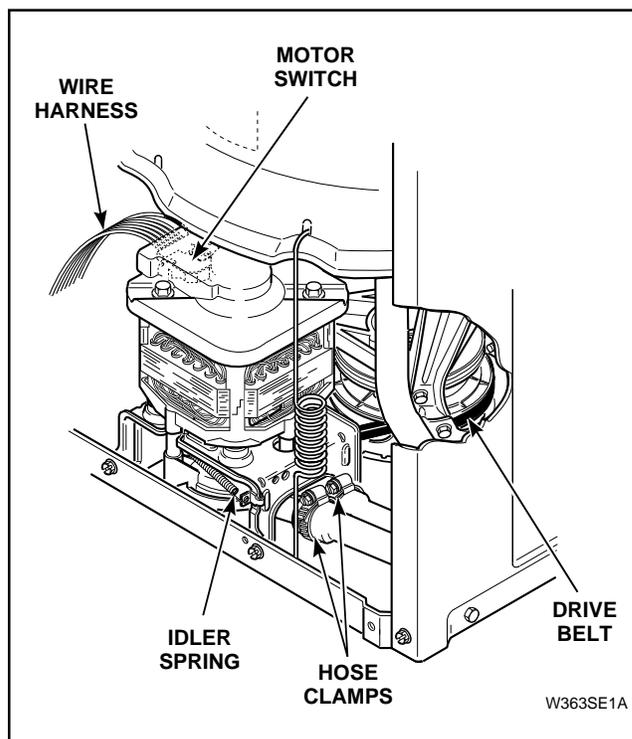

Figure 17
- Loosen hose clamps and remove hoses from pump assembly, Figure 17.
- Unhook idler spring from clip on front of motor mounting bracket, Figure 17.
- Reach in and around right side of motor and run belt off right side of large drive pulley, *Figure 17*.
- Loosen hose clamps and remove hoses from pump assembly, *Figure 17*.
- e. Reach in and around right side of motor and run belt off right side of large drive pulley, *Figure 17*.